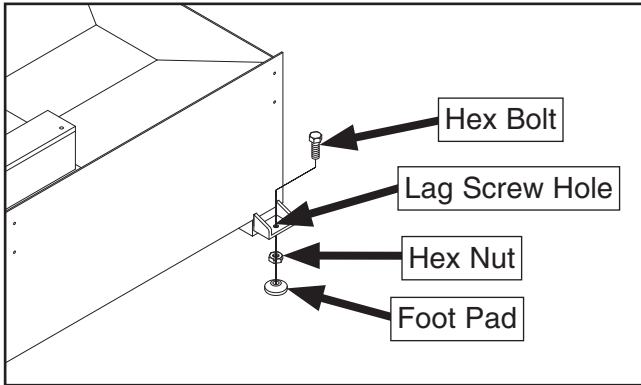

Figure 12. Foot pad installation components.
5. Install (1) M16-2 x 75 DOG-PT hex bolt and M16-2 hex nut at each lag screw hole from **Step 3** (see **Figure 12**).
6. Place foot pads under hex bolts from **Step 5** and lower machine onto foot pads (see **Figure 12**).